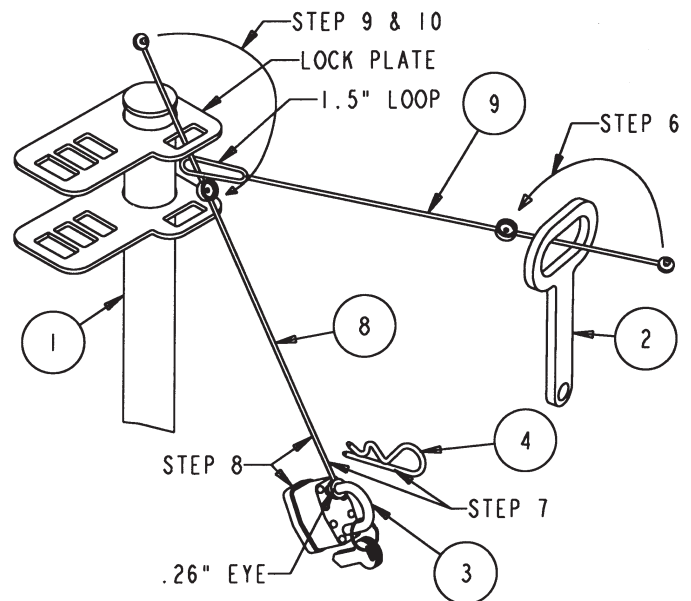

FIGURE 2
**For steps 6-10 refer to Figure 2.**